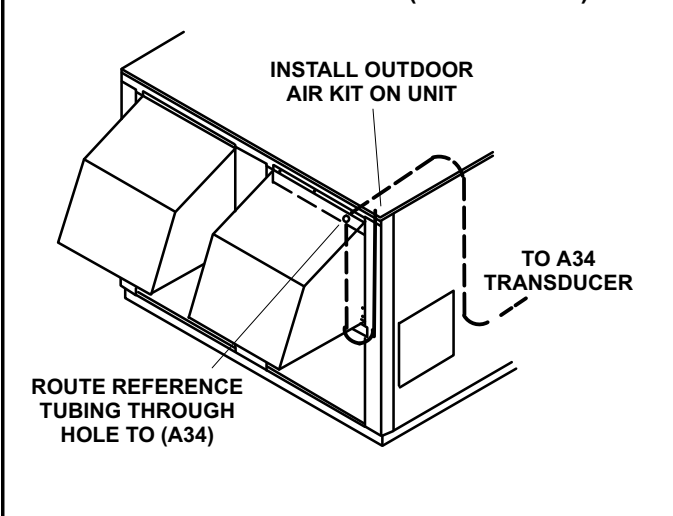

FIGURE 39
- 2- Locate the outdoor air kit shipped in a box in the blower section on the back side of the unit. Install outdoor air kit on the top of the unit in location shown in figure 39. Use manufacturer's instructions.
- 3- Locate the tubing provided with the outdoor air kit. Route the tubing from the outdoor kit through the hole under the intake hood to A34 as shown in figure 39. Connect tubing to the (-) port on the transducer. Coil and secure excess tubing - do not cut.